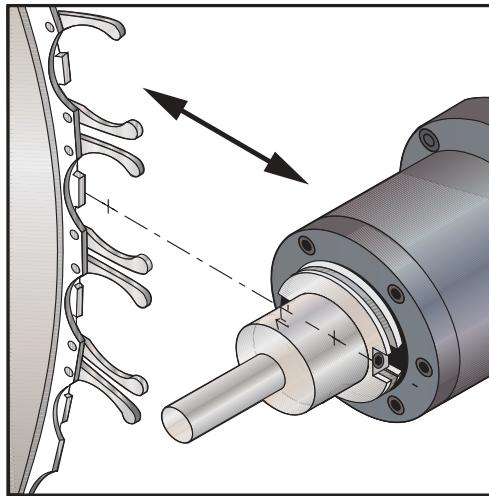

Figure 3.8-10.
38. Install a tool holder into the spindle. See *Figure 3.8-10*.